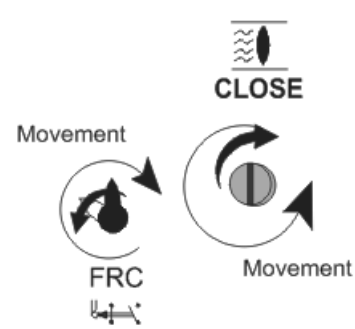

Figure 10.2-5
- If, by accident, it has been carried on turning past the tripping of the FRC microswitch, turn spindle **U** in the opposite direction (counter-clockwise) until the **Z** spindle returns vertical (Figure 10.2-5)